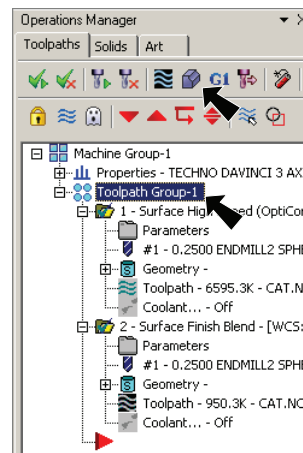

Fig. 40
Step 1. Click **Toolpath Group1** in the Toolpaths Manager to select **both** toolpaths, **Fig. 40**.
Step 2. Click **Verify**  in the Toolpaths Manager, **Fig. 40**.